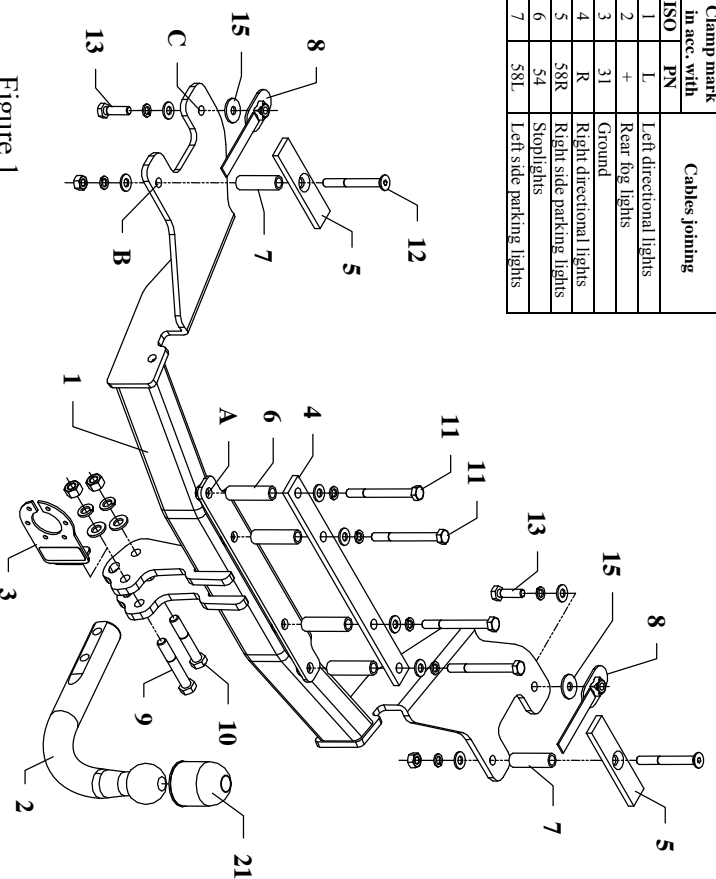
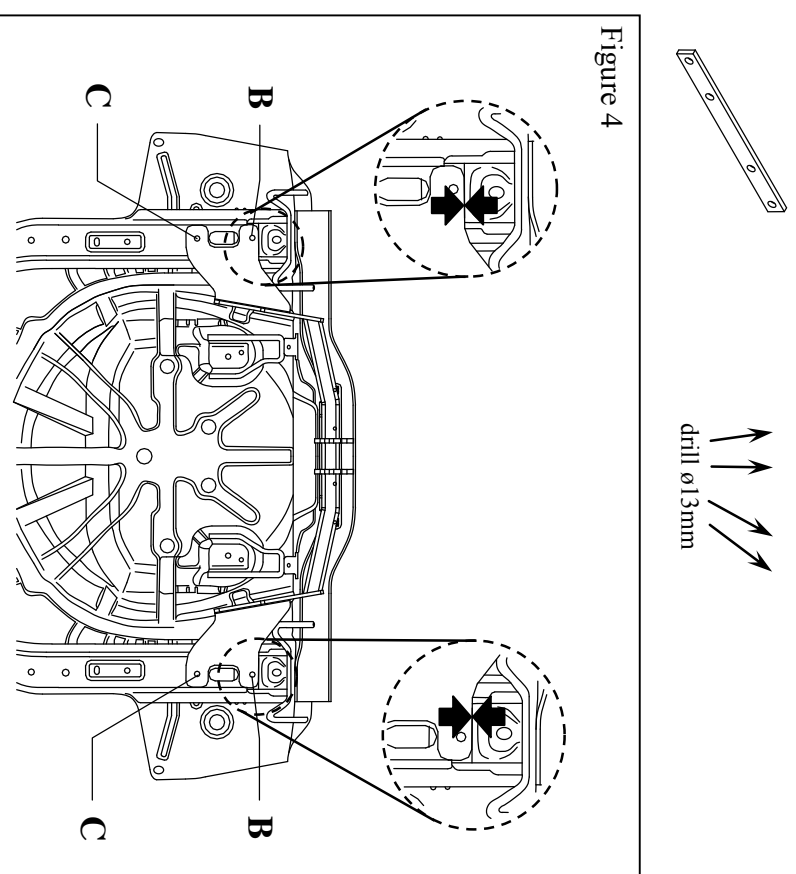

Figure 1
Figure 4
6. Put main bar of the towbar (pos. 1) to chassis in this way so holes A agree with holes drilled in metal beam. Inside trunk put distance sleeves (pos. 6), Apply central fish-plate (pos. 4) and fix loosely by bolts M10x100mm (pos. 11) as shown on figure 1.
7. Mark holes B and C, next drill it to $\varnothing 11\text{mm}$, see figure 4.
9. From trunk side put distance sleeves (pos. 7) and fish-plates (pos. 5) and bolts M10x90mm (pos. 12). Fix loosely.
10. Through existing holes in chassis members put nuts on the jibs (pos. 8) and fix in points C using bolts M10x35mm (pos. 13) as shown on figure 1.